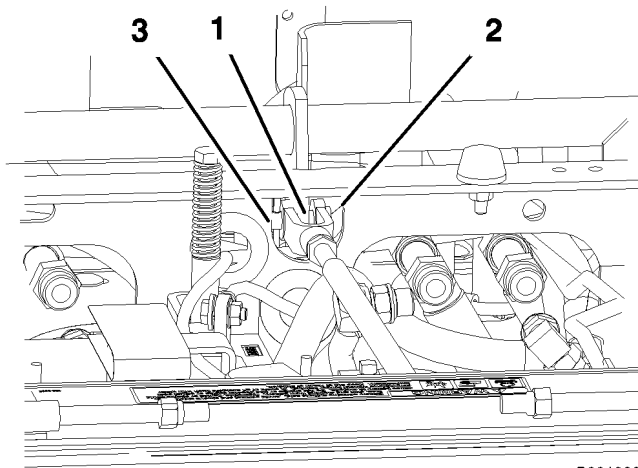

Figure 47
3. Measure the distance vertically between the front of the brake bar and the crown of the tire; the measurement should be 7/8 inch to 1 inch (22 to 25 mm) (Figure 47).
- 6. Adjust the yoke clockwise to shorten the distance; counterclockwise to lengthen distance (Figure 47).